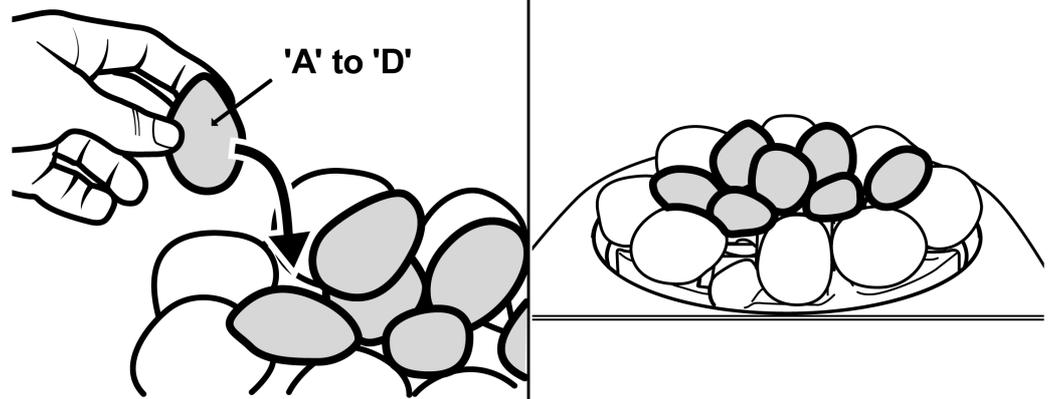

Figure 38 Pebbles lettered 'A' to 'D' Location
9. There are seven pebbles lettered 'A' to 'D' on the underside. Locate these evenly over the top of the first layer of pebbles (See figure 38). To optimise the flame picture it may be necessary to position these pebbles away from the centre of the fuel bed allowing more central flames.